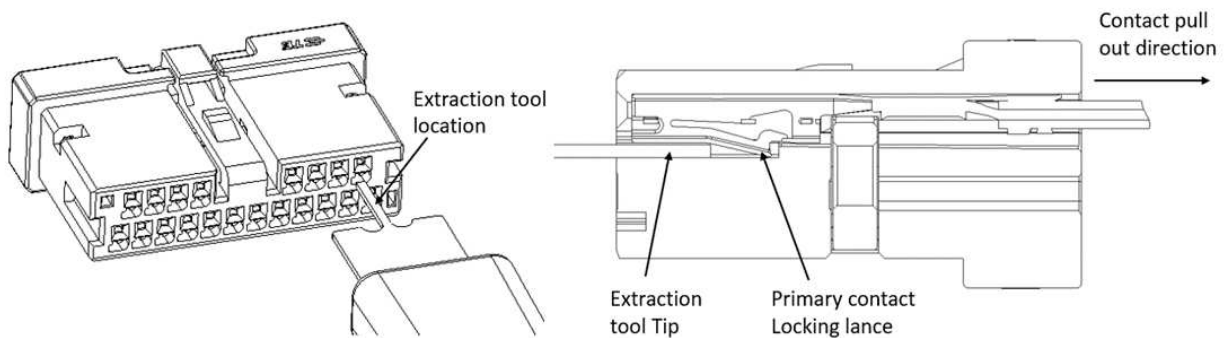

Figure 7
3.2.2 Insert contact removal tool (as shown in Figure 7) into the selected exposed contact cavity, as shown in Figure 7, press primary locking lance back and pull out contact as shown.